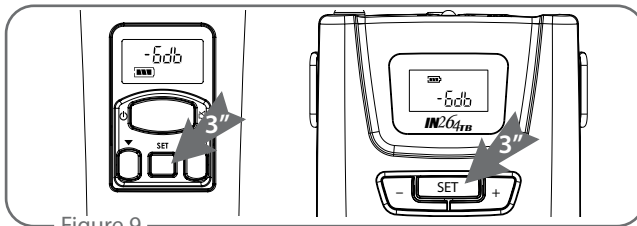

Figure 9
- (1) Press “Set” button ②① ②⑨ button for 3 seconds, the group (G) will flash. (Figure 9)
- (2) Press “▲Up” ②② ③① or “▼Down” ②③ ③① button to select a desired group.
- (3) Press “Set” again and the Channel (CH) will flash.
- (4) Press “▲Up” or “▼Down” button to select a desired channel.
- (5) After setting, press “Set” again to save the setting.